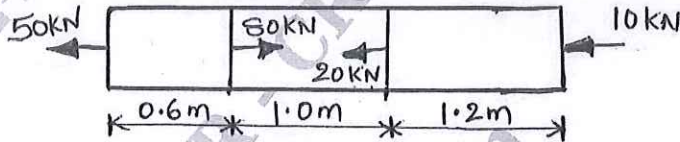

Fig. Q1 (c)
- c. A brass bar having cross sectional area of  $1000 \text{ mm}^2$ , is subjected to axial forces shown in Fig. Q1 (c). Find the total elongation of the bar. Take  $E = 100 \text{ GN/m}^2$ . (10 Marks)